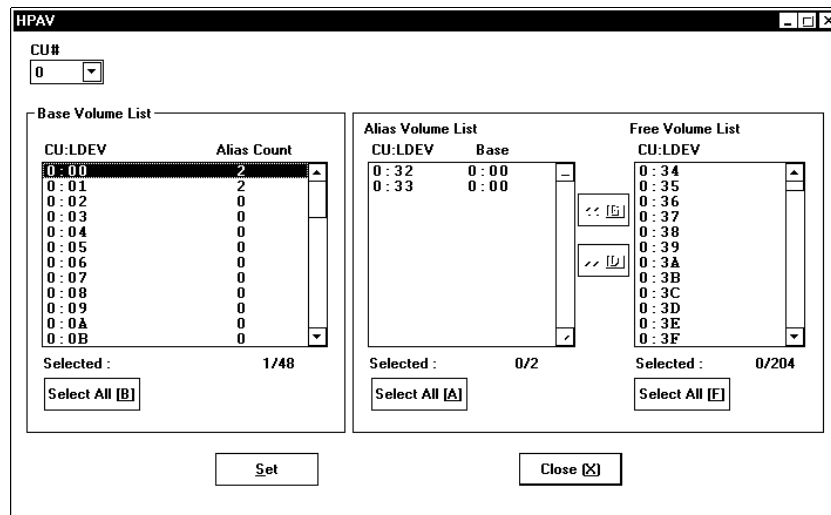

Fig. 13.6 HPAV main panel (A list of aliases for the specified LDEV is displayed)
3. In the Base Volume List box, look for the desired LDEV and then select the LDEV. On the right of the LDEV number is displayed the number of aliases assigned to the LDEV. When you select the LDEV, the Alias Volume List box displays a list of aliases for the selected LDEV (see Fig. 13.6). In the Base column appear the CU number and the LDEV number of the base volume corresponding to the alias.